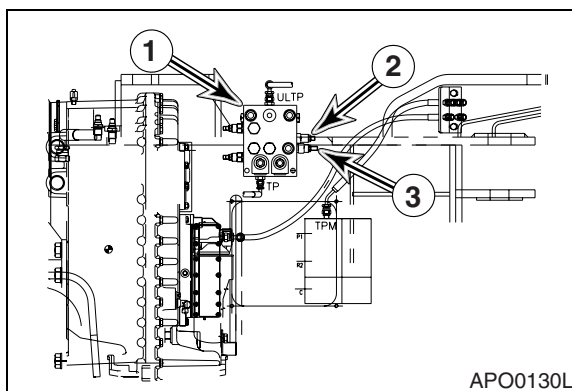

Figure 95
2. Adjust relief cartridge (3, Figure 95) on brake and pilot supply valve (1, Figure 95). Relief pressure should be set at $28^{\pm 3}$ kg/cm² ($398^{\pm 43}_{-30}$ psi).